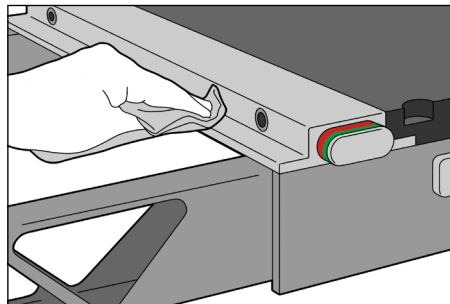

Fig. 2
2. Wipe any lint or debris from the outside of latch. (Fig. 2)